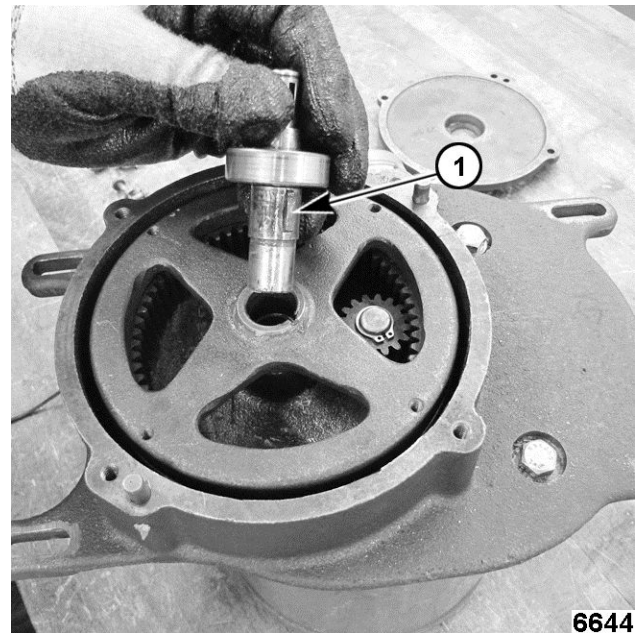

Fig. 149
4. Remove the PBL transmission shaft assembly and key (1, Fig. 149).